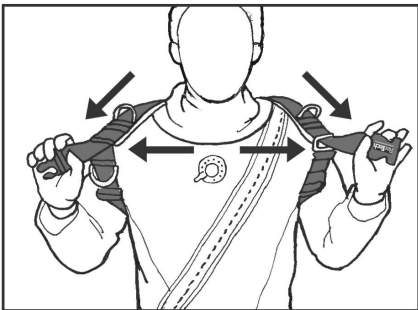

Figure 11
- take both ends of chest straps in your hands, overlap the straps and close the clasp so that the sticker **RedTech** is facing outwards (Figure 11, 12.)